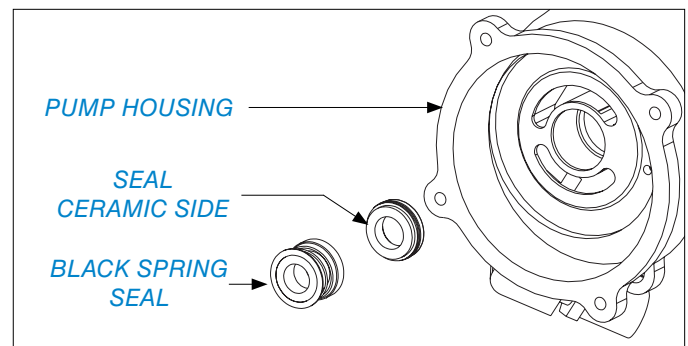

FIGURE 14. PRESS SEAL INTO PUMP HOUSING
2. Press the seal into the pump housing with the ceramic side facing outward (*FIGURE 14*).